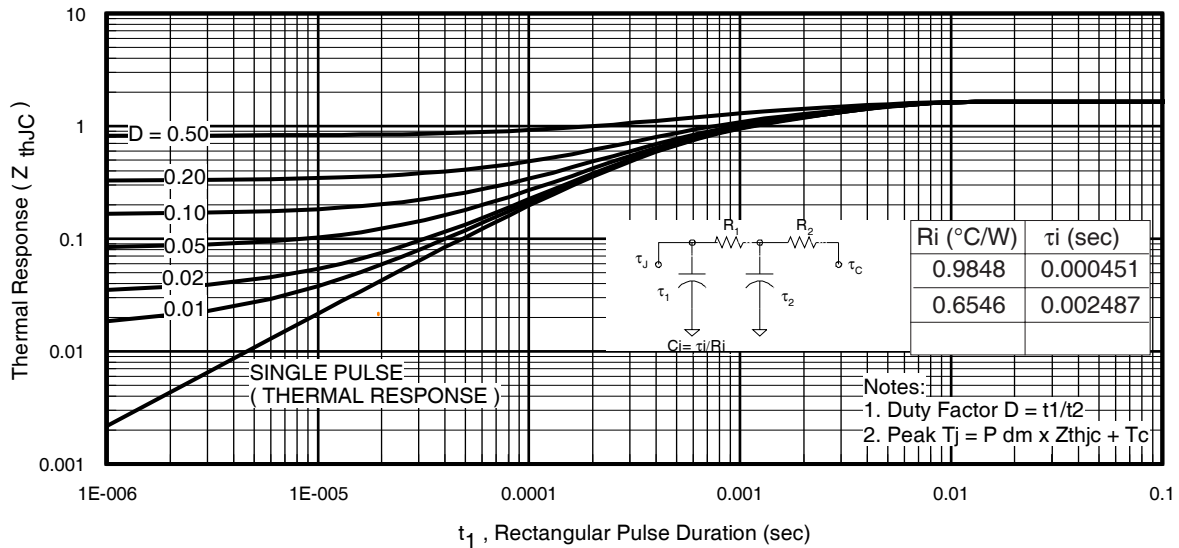

Fig 11. Maximum Effective Transient Thermal Impedance, Junction-to-Case
- ① Repetitive rating; pulse width limited by max. junction temperature. (See fig. 11).
- ② Limited by T_{Jmax} ; starting $T_J = 25^\circ\text{C}$, $L = 0.11mH$, $R_G = 25\Omega$, $I_{AS} = 37A$, $V_{GS} = 10V$. Part not recommended for use above this value.
- ③ $I_{SD} \leq 37A$, $di/dt \leq 920A/\mu s$, $V_{DD} \leq V_{(BR)DSS}$, $T_J \leq 175^\circ\text{C}$.
- ④ Pulse width $\leq 1.0ms$; duty cycle $\leq 2\%$.
- ⑤ $C_{oss \text{ eff.}}$ is a fixed capacitance that gives the same charging time as C_{oss} while V_{DS} is rising from 0 to 80% V_{DSS} .
$Z_{thJC}(D, t_{av})$ = Transient thermal resistance, see figure 11)